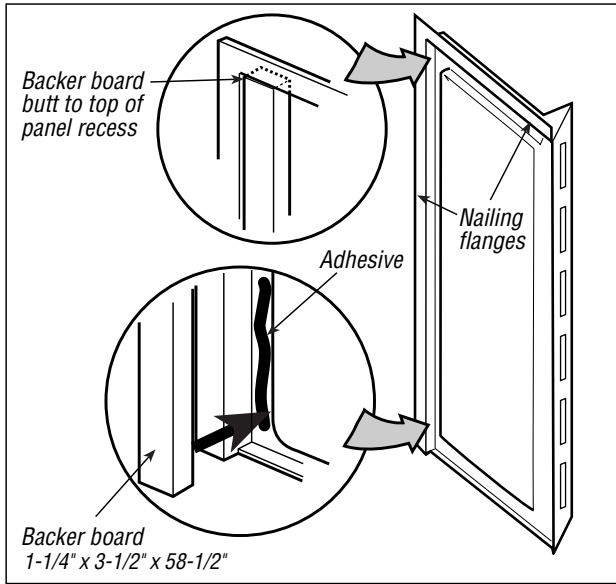

Figure 1
- 1** If you will be installing a tub door, a backer board (*note size in Figure 1*) must be installed on the back of both side walls. Apply a bead of adhesive in the recess of each side wall and attach board (*Figure 1*), butting board up to the top of the recess.